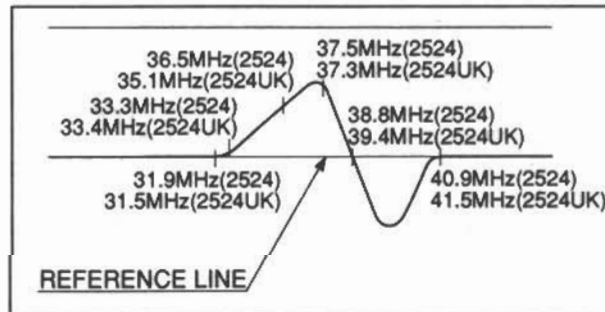

Fig. 3
1. Remove solder between TP(A) and TP(B).
5. Adjust T202 to place 39.5 MHz marker at zero reference line on response curve. (Refer to Fig. 3)
11. Put solder between TP(A) and TP(B) after adjustment is made.